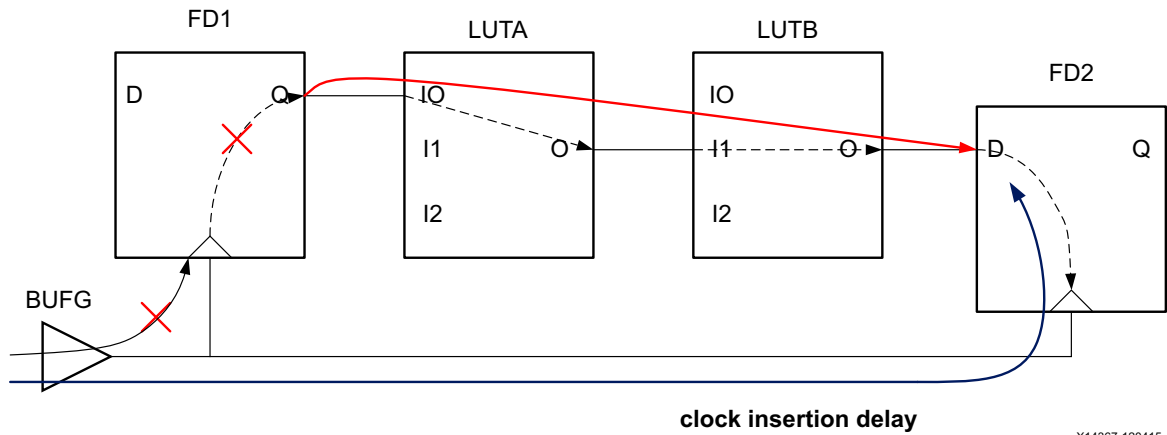

Figure 5-29: Path Segmentation Result in Large Skew
**Note:** Because of Path Segmentation, no clock insertion delay is used for the launch clock for paths starting from FD1/Q. This can potentially result in large skew because the clock skew of the endpoints is still taken into account. See Figure 5-29.